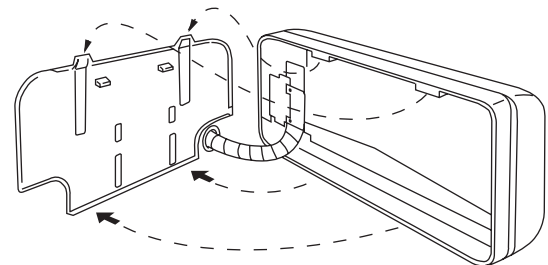

Fig. 36
- (2) Push the wiring, refrigerant tubing, and drain hose through the hole in the wall. Adjust the indoor unit so it is securely seated on the rear panel. (Fig. 36)
- (3) Carefully bend the tubing (if necessary) to run along the wall in the direction of the outdoor unit and then tape as far as the fittings. (See Caution on page 20.) The drain hose should come straight down the wall to a point where water runoff won't stain the wall.